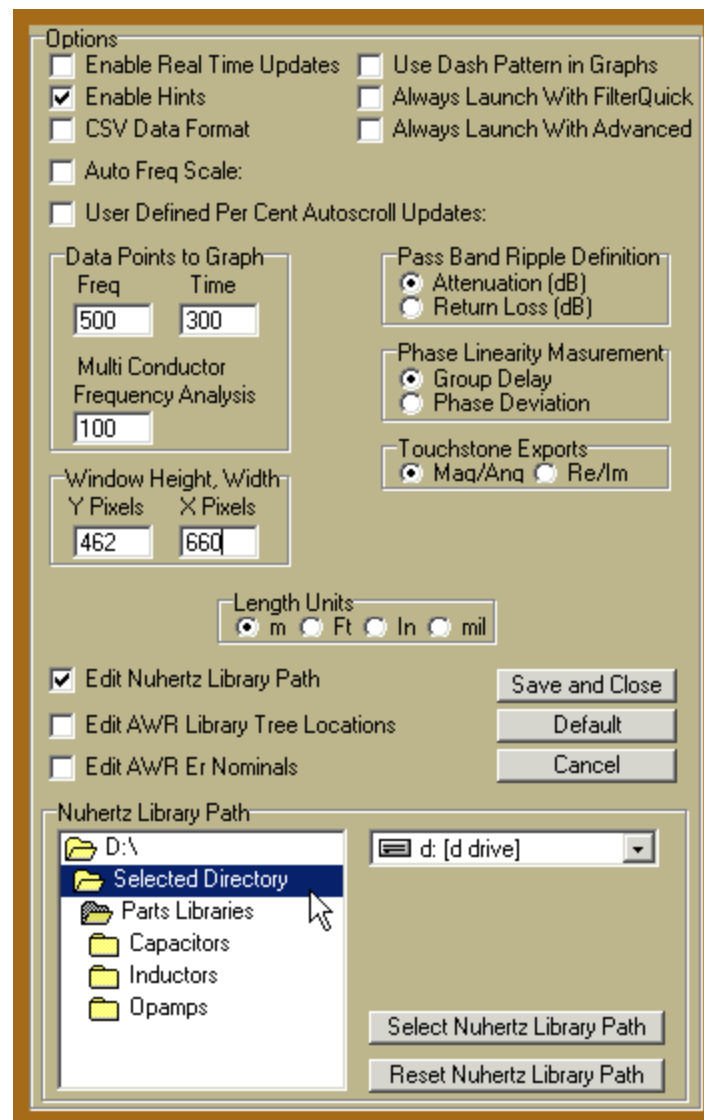

Figure 1: Editing the Library path
- 1) In the options panel ("Options Panel" under "Options" in the main menu), check, "Edit Nuhertz Library Path", as shown in Figure 1. Select the desired drive and the desired directory to house the customized library, and select, "Select Nuhertz Library Path". **The selected directory must include, "Parts Libraries" directory**, which in turn must include the directories of Capacitors, Inductors, and Opamps which in turn must contain the families and part files that are desired to be accessible.